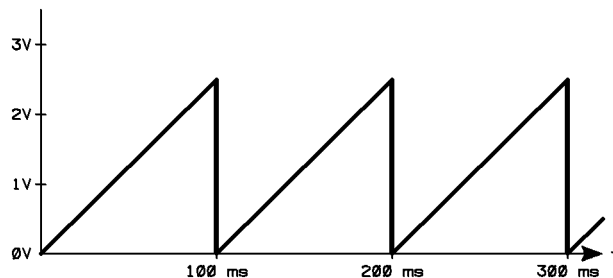

Figure 3-3. Example Sawtooth Waveform
7. **Set the controls of the function generator for a sawtooth waveform (see Figure 3-3) that produces the desired power sweep.**
To program the signal generator to generate the power sweep explained above, connect the equipment as in the above procedure. Set the function generator to generate a sawtooth waveform similar to that in Figure 3-3, and then run the following program.